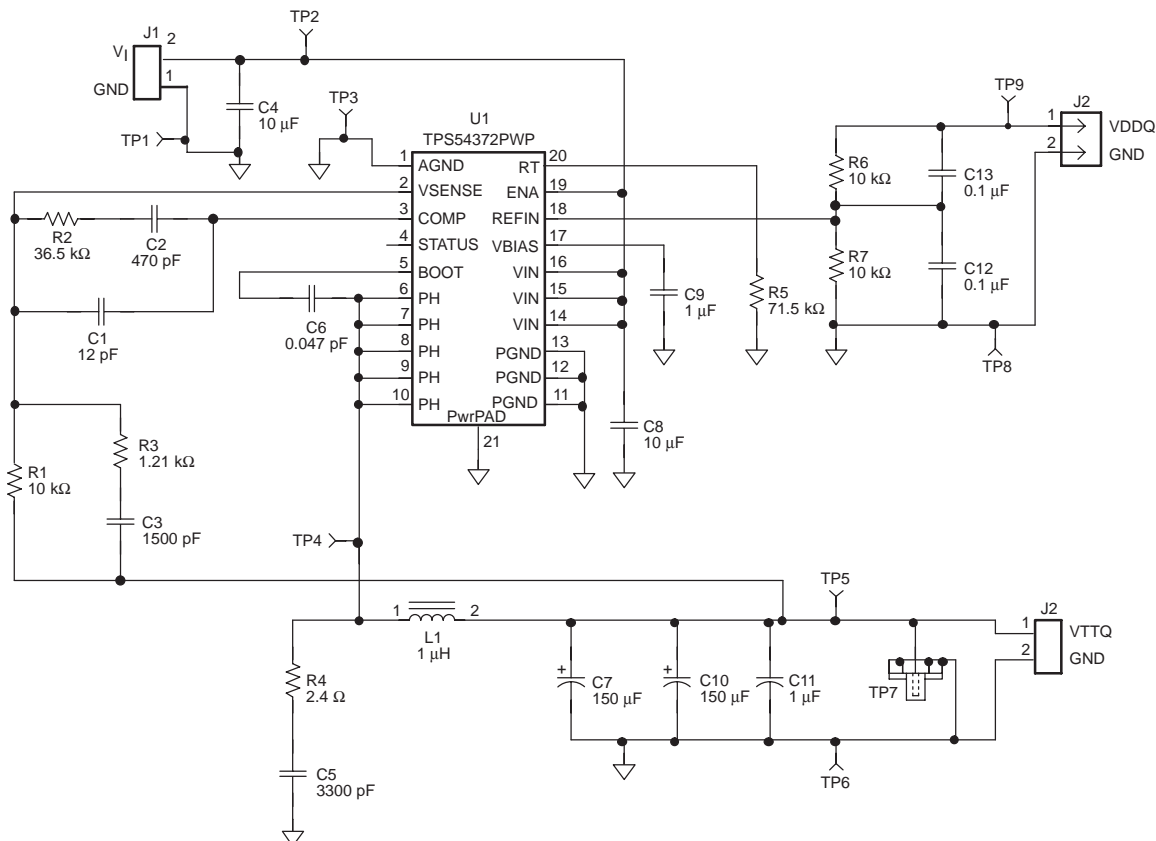

Figure 8. Application Circuit
(1) Specified by design
(2) Static resistive loads only
(3) Specified by the circuit used in Figure 8.
Figure 8 shows the schematic diagram for a typical TPS54372 application. The TPS54372 (U1) can provide up to 3 A of output current at a nominal output voltage of